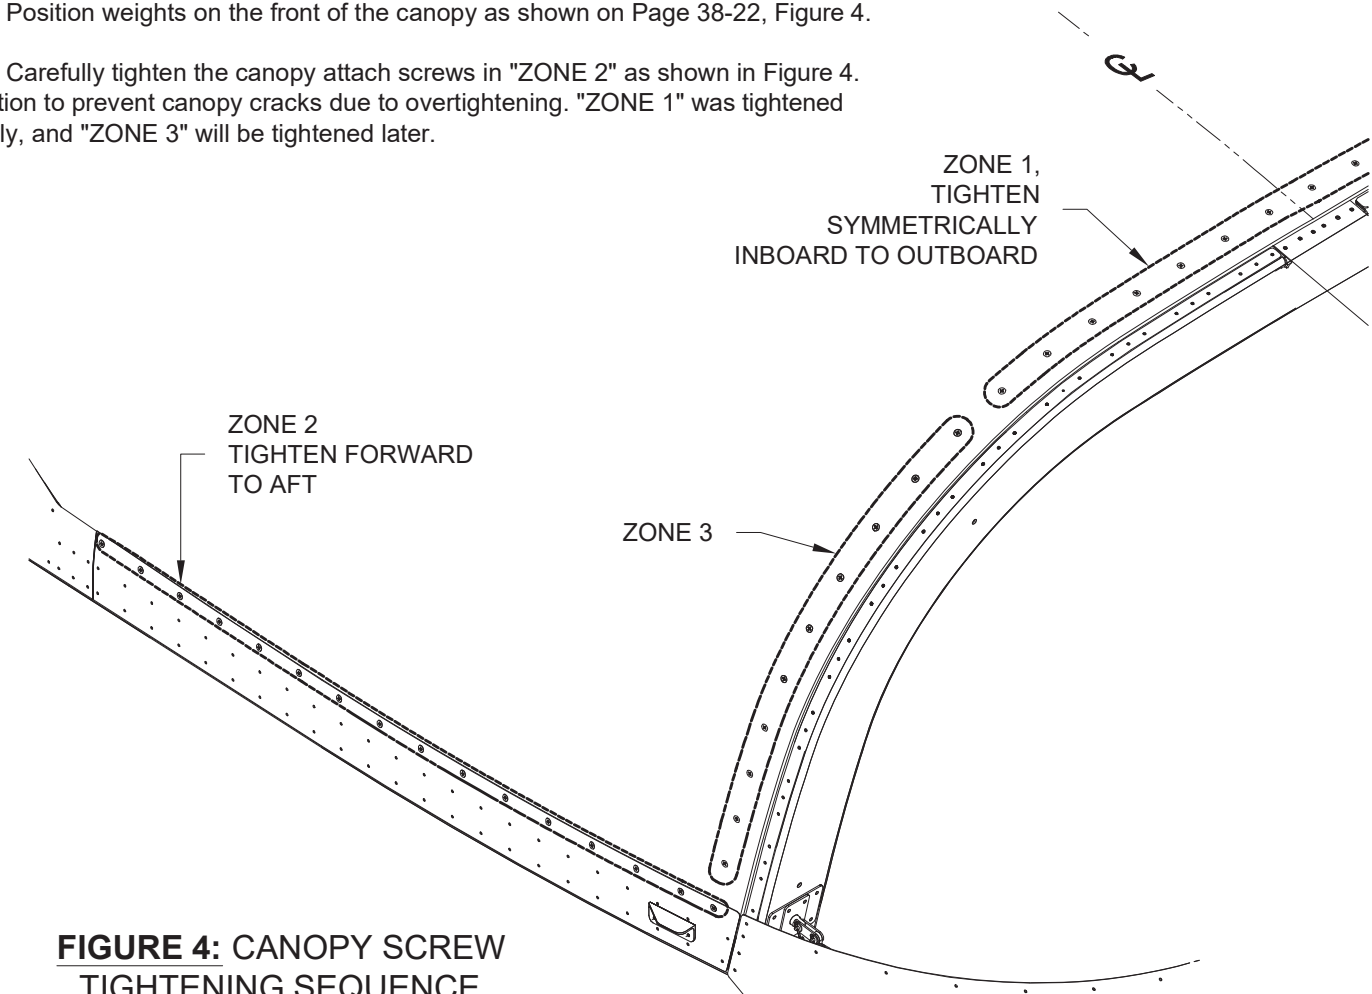

FIGURE 4: CANOPY SCREW TIGHTENING SEQUENCE
Step 15: Position weights on the front of the canopy as shown on Page 38-22, Figure 4.
Step 16: Carefully tighten the canopy attach screws in "ZONE 2" as shown in Figure 4. Use caution to prevent canopy cracks due to overtightening. "ZONE 1" was tightened previously, and "ZONE 3" will be tightened later.